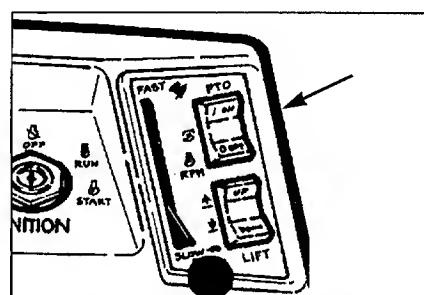

Figure 2-11: After an attachment is installed, turn the PTO Attachment Drive Switch ON and OFF about a dozen times to complete the "break-in" procedure.
- c. Engage and disengage the tractor's PTO Attachment Drive Switch 10 or 15 times. Refer to Figure 2-11. Be certain the attachment is neither cutting grass nor blowing snow while you perform this break-in procedure.